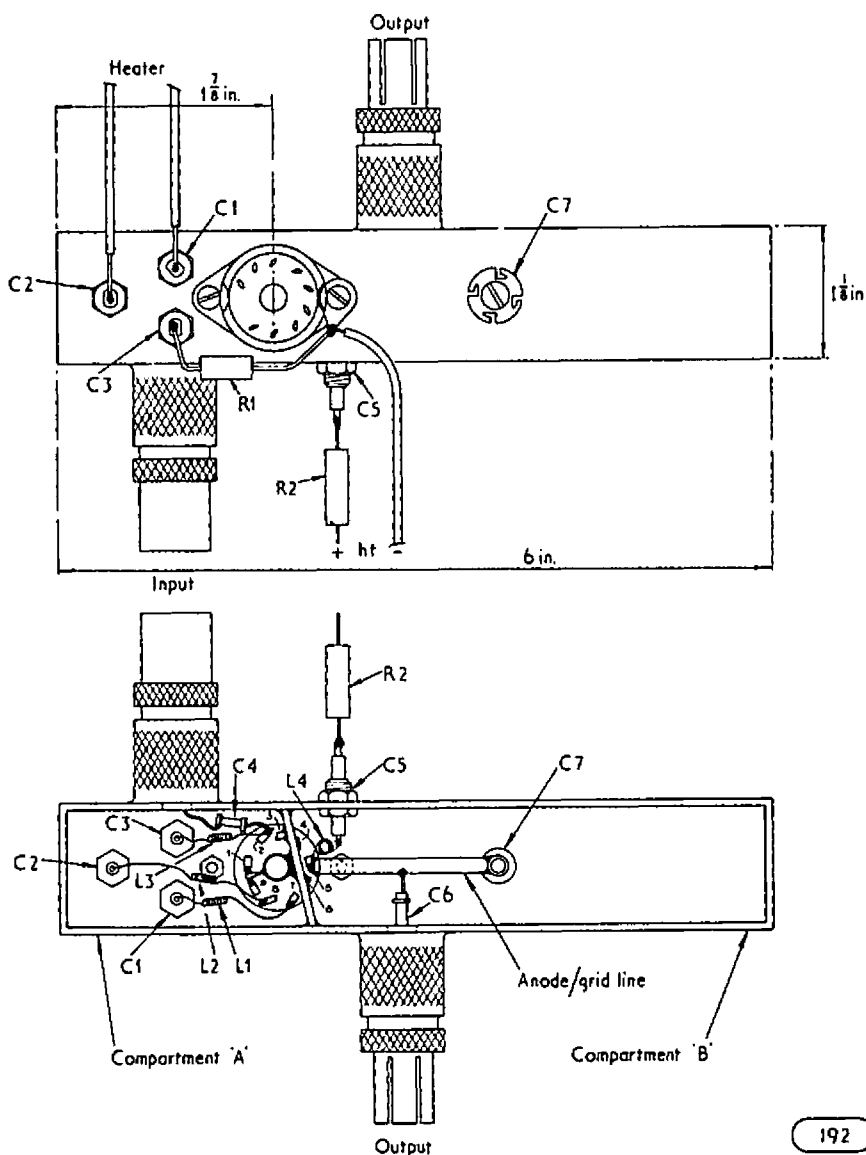

Fig. 2. Layout of the amplifier of fig. 1.
**CIRCUIT DETAILS (Fig. 2)****900 Mc/s Amplifier**
The layout of the circuit is shown in fig. 2. The valve is mounted in a standard PTFE B9A socket. The transverse screen, which divides the chassis into compartments "A" and "B", is cut to fit closely over the base of the socket and soldered so that tags 4, 5 and 6 are in compartment "B." Tags 4 and 6 are soldered directly to the screen and tag 3 is soldered to its other side in compartment "A."